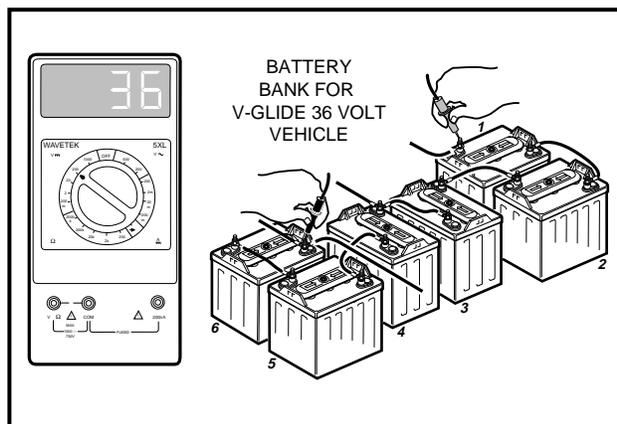

Figure 11-4 Batteries/Voltage Test
1. With batteries connected and using a multimeter set to 200 volts DC, place red (+) probe on the positive post of battery No. 1, and black (-) probe on the negative post of battery No. 6 (**Figure 11-4, Page 11-7**). If multimeter does not indicate at least 36 volts with battery fully charged, check for loose battery connections or a battery installed in reverse polarity. Refer to **Section 13–Batteries** for further details on battery testing.